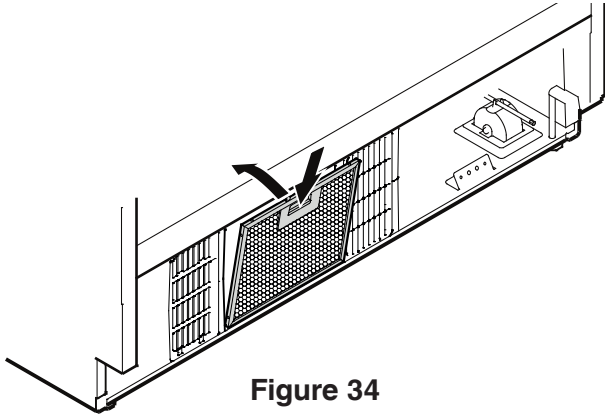

Figure 34
Mounting the ventilation grille - Figure 34, 35
2. Remove the blue protection film from the dust filter provided and insert the filter into its opening in the toe kick area as shown in **Figure 34**. Attach the filter at the bottom, press down the button and click into place.